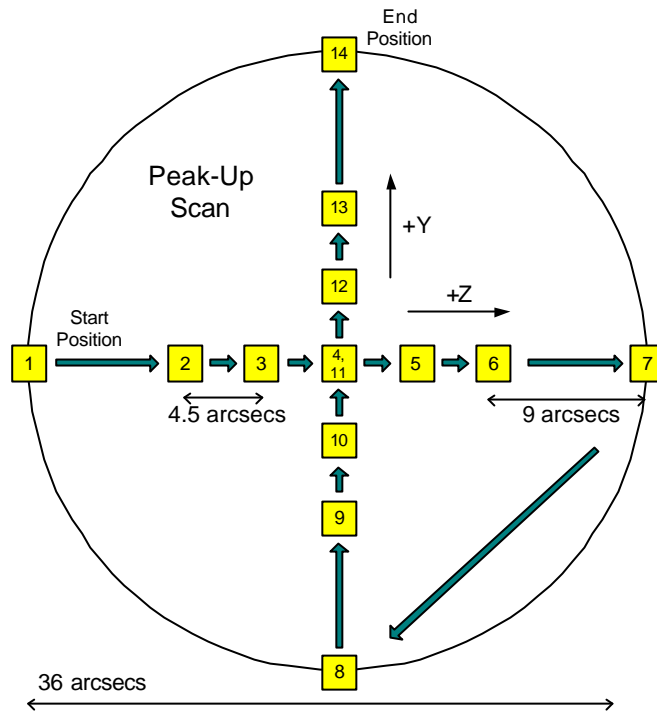

Figure 2: Raster Pattern For Peak-Up
10. Move telescope simulator -18 arcseconds in the Z direction (figure 2 position 1)
12. Move the telescope simulator +9 arcseconds in the Z direction (figure 2 position 2)
14. Move the telescope simulator +4.5 arcseconds in the Z direction (figure 2 position 3) then wait 2 minutes
15. Repeat 14, 3 more times (figure 2 positions 4,5,6)
16. Move +9 arcseconds in the Z direction (figure 2 position 7) and wait 2 minutes